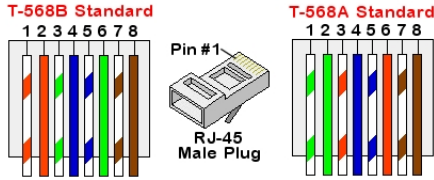

Figure 22: Standard cable wiring
- c. Insert the eight wires into an RJ45 connector, as described in *Figure 22*.
7. For the switch/router side, use a pre-terminated cable or use a crimper to prepare an RJ45 communication connector: Insert the eight wires into the RJ45 connector in the same order as above (*Figure 22*).